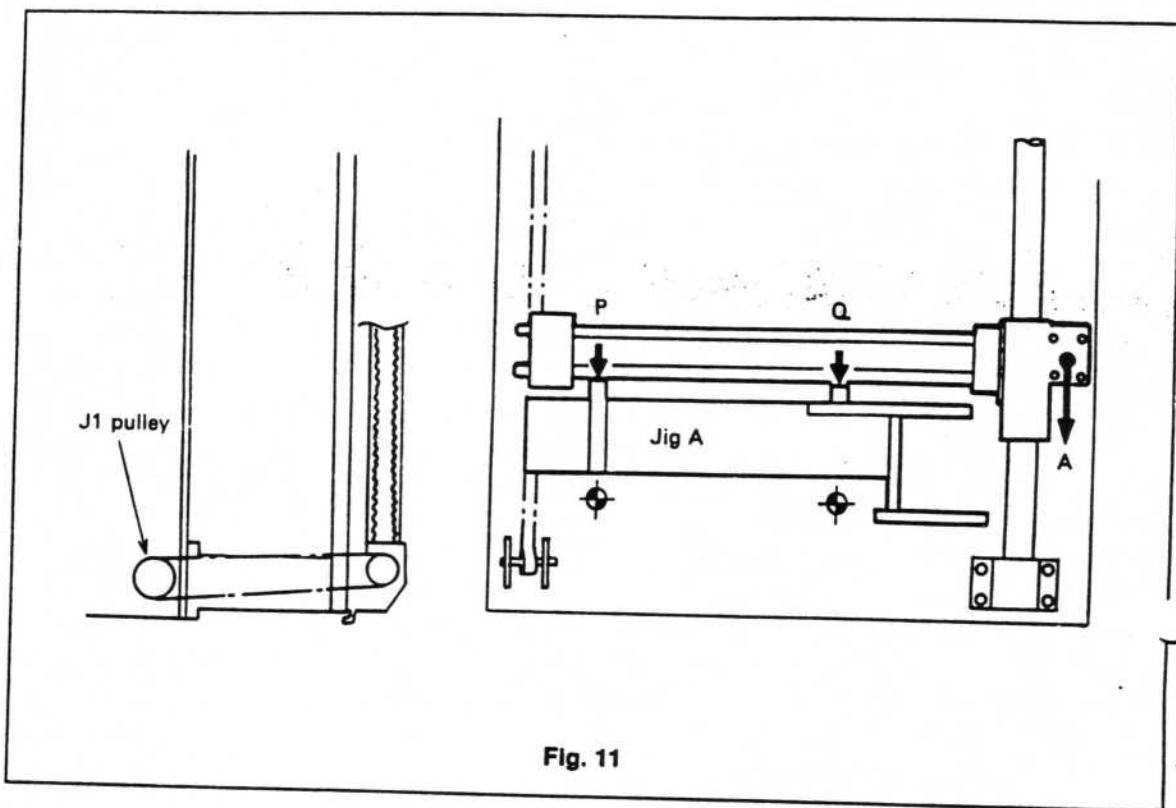

Fig. 11
3. Set Jig A, used in 2-(1), in the position shown in Figure 11, without removing the two pins. At this time, Jig A should be adhered to the two pins.
4. Gently draw the point on Slide Table A indicated with an arrow in Figure 11 towards you, until the X axis and Jig A are in contact.
6. If adjustment cannot be made as described in item 5, move the Upper Bracket and Upper Bracket R back and forth to make adjustments.